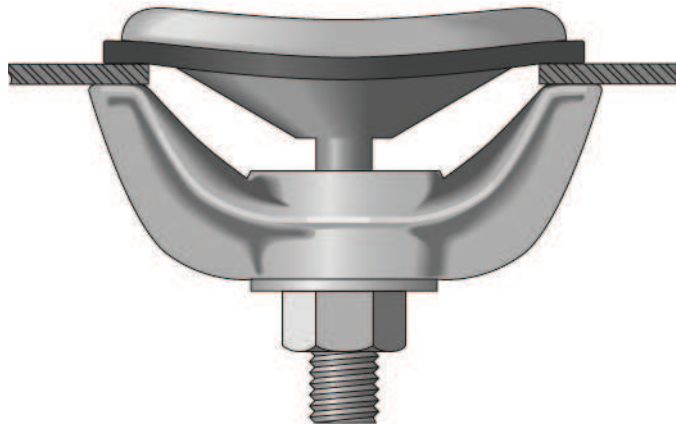

FIGURE 5 - CORRECT PRESSURE ON GASKET
- » Position the plate in the boiler. Set the yoke and tighten the securing nut sufficiently enough to provide a snug fit. Verify the position of the plate in the boiler, then make it hand tight and then snug with wrench about 1/4 turn. Do not compress excessively. See Figures 5 and 6.